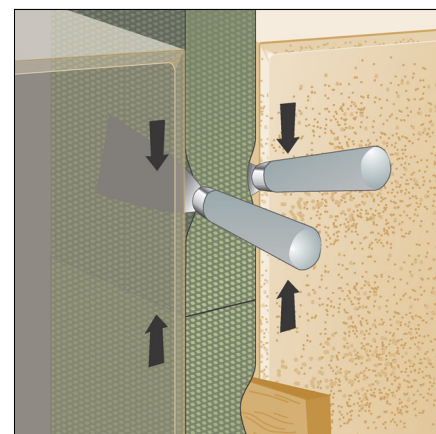
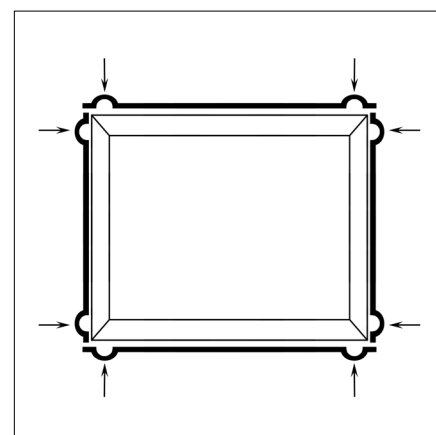

Fig 3 - Compression of tape to make watertight butt joints
Fig 4 - Tape application at corners (Note: oversize length 10mm/m)
- If installing tape into a construction joint, it may be applied either horizontally or vertically (from bottom to top.) However, when applying to a door or window frame the horizontal seals must be applied before the vertical ones (Fig 4). Tape must be applied with the adhesive side to the frame when working with fenestration but may be applied in any order when working with construction joints. In both cases, do not stretch the tape. When working in damp or cold conditions a wood wedge should be used to hold the tape in position until it is expanded (Fig 3). Ensure the tape is recessed by a minimum of 2mm from the front of the joint.
- At the end of a roll, cut off the tape wedge finish. Repeat the process with a new roll, making a close compressed butt connection as shown in Fig 3.